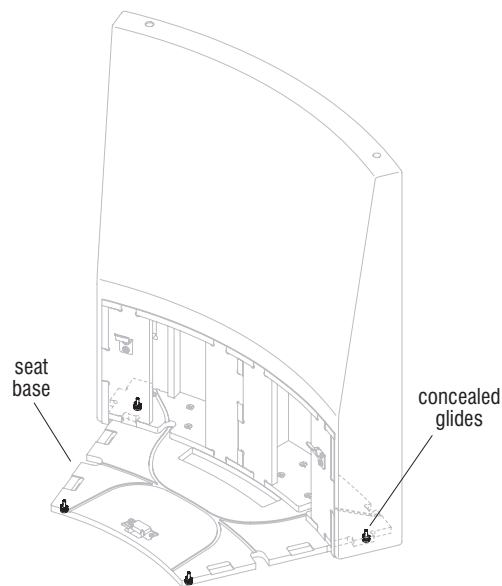
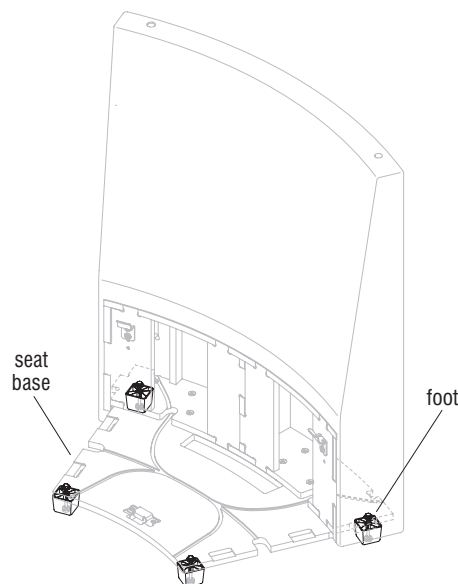

Figure 3
Figure 4
accomplished in one of two ways. First, while the upholstered seat is removed/uninstalled, using a Phillips screwdriver, the glide screws on top of the seat base may be twisted to level the lounges (Figure 3 & Detail B). The second option is to carefully lift each corner of the lounge unit (or have a second person lift the corners, depending on the size and shape of the unit) and twist the glides to level the lounges (Figure 3 & Detail C). Leveling lounge units with feet can only be accomplished by carefully lifting each corner of the lounge unit (or have a second person lift the corner, depending on the size and shape of the unit) and twist the glide on the foot to level the lounge (Figure 4 & Detail D).
1. Twist the concealed glides in clockwise, fully to the bottom of the seat base or fully to the bottom of the feet if twisting glides on feet. This will allow for upward adjustment of the seat base, if required at the final installation location (Figures 3 & 4, Details B, C & D).